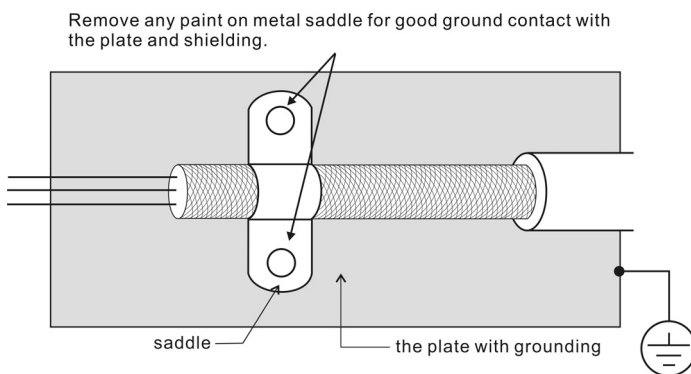

Figure 1
3. The protective paint of the U-shape saddle and metal plate should be removed in order to ensure the good contact. Please see figure 1.